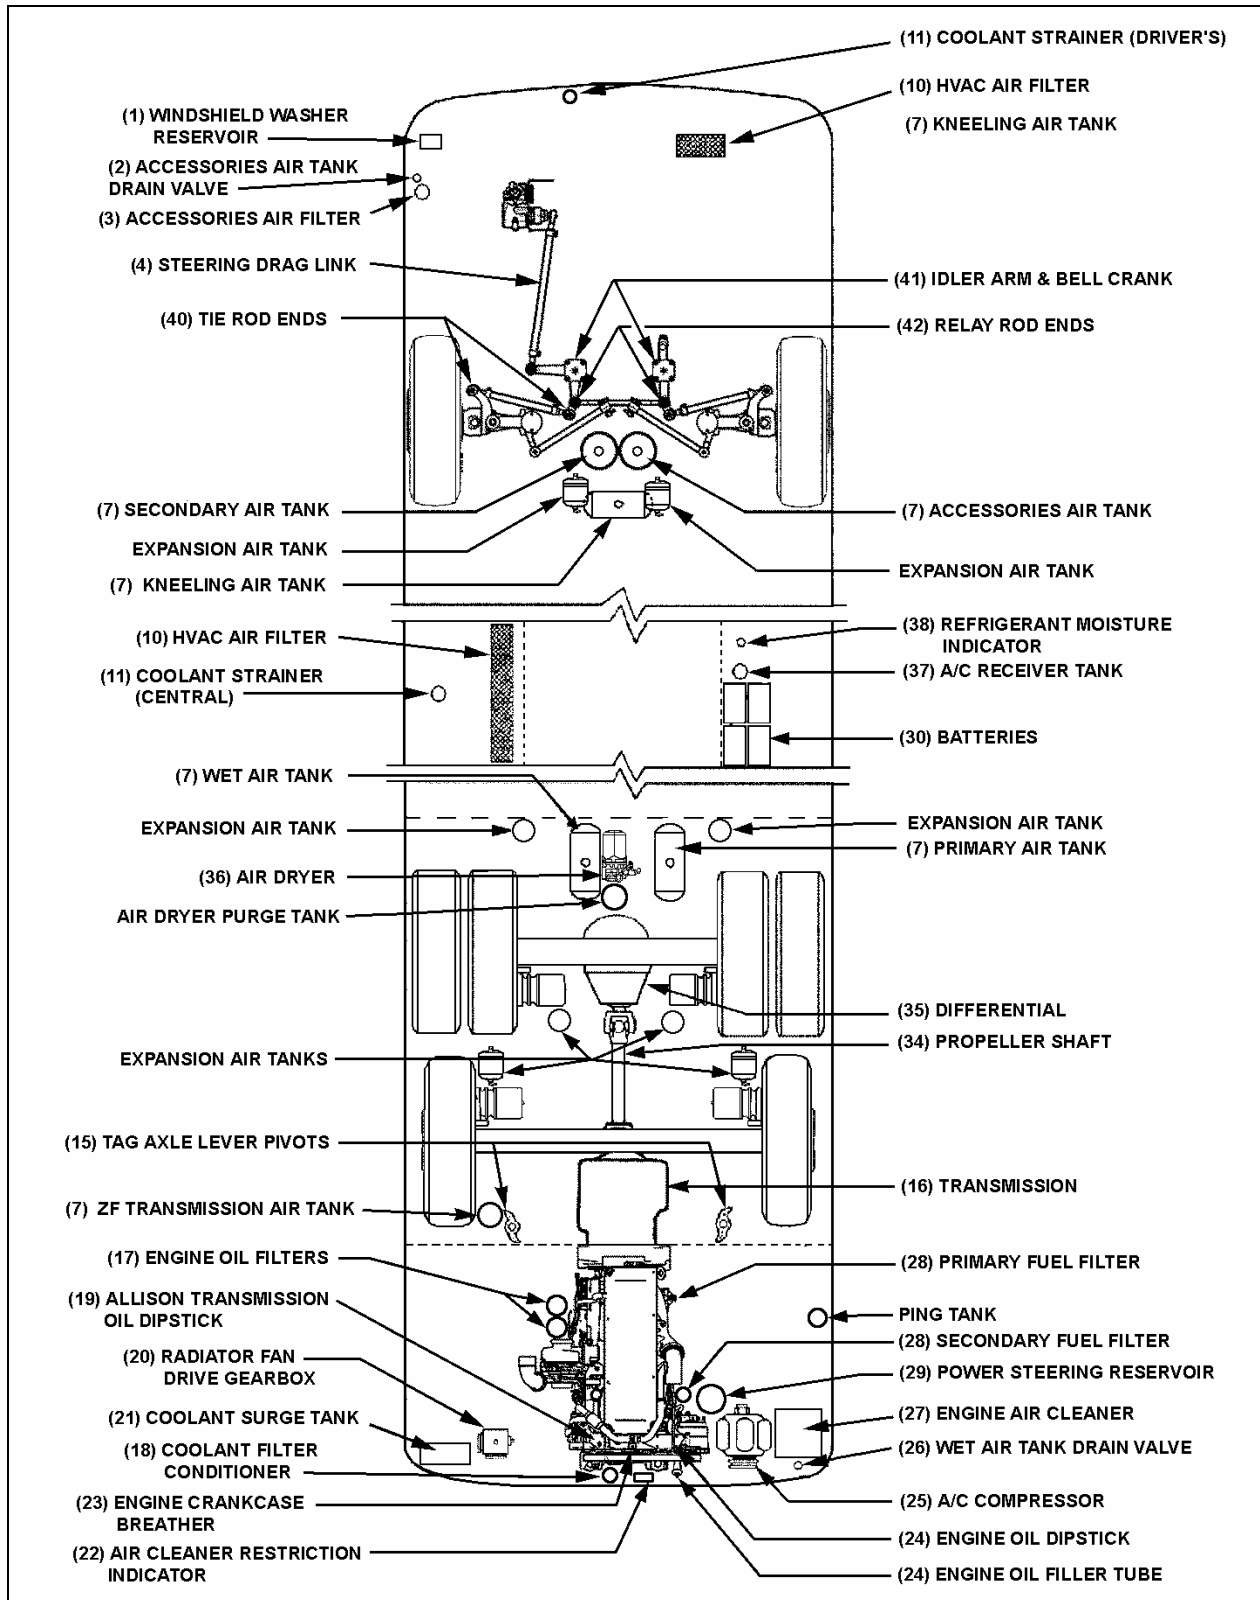

FIGURE 2: LUBRICATION AND SERVICING POINTS ON INDEPENDENT FRONT SUSPENSION VEHICLES
- Item numbers refer to figures 2 and 3.
* Item numbers refer to figures 2 and 3.